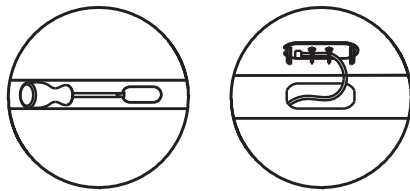

Figure 1
- **Disconnect the Cover:** Remove the sensor socket cover from the fixture using a pry tool or small screwdriver. Detach the flat cable from the back of the cover. (Figure 1)